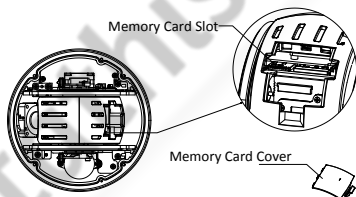
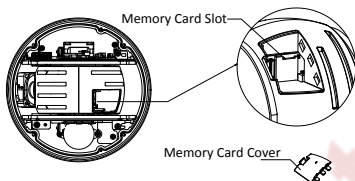

Figure 2-11 For 20x Camera Module
Figure 2-12 For 4× Camera Module
3. Open the memory card cover and insert the memory card into the card slot as shown in Figure 2-11 and Figure 2-12.